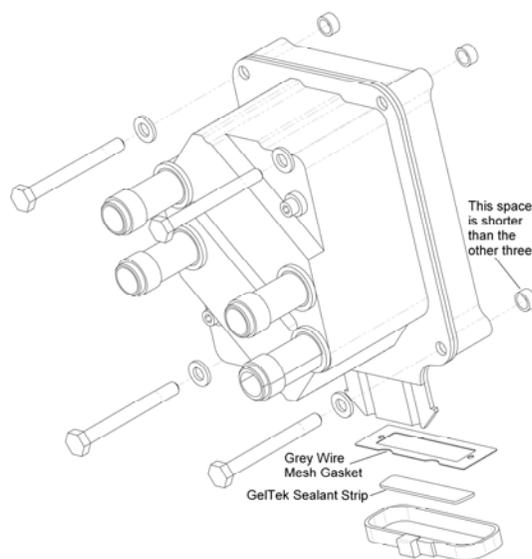

Figure 74-3 ECU Bolt and Spacer Locations
8. Position a new GelTek sealant strip and wire mesh gasket on to the ECU connector. See Figure 74-3.
The next step installs the bolts that hold the ECU to the firewall. Between the module and the firewall there is a stand-off spacers. There are two sizes of these stand-off spacers. Be sure to note the location of the space as they are removed. See Figure 74-3